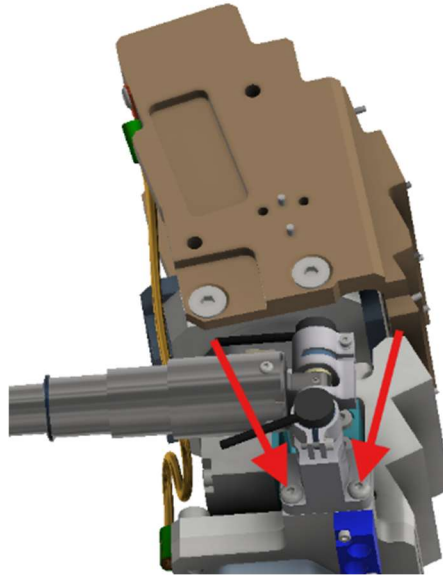

Figure 5-53. Attach lower thoracic IR-TRACCs to thoracic spine
- 5.3.19 To attach each of the Lower Thoracic IR-TRACC Assemblies to the Spinebox Interface Plate (474-3072) use two M4 X 0.7 X 12 LG. BHCS per assembly (Figure 5-53).